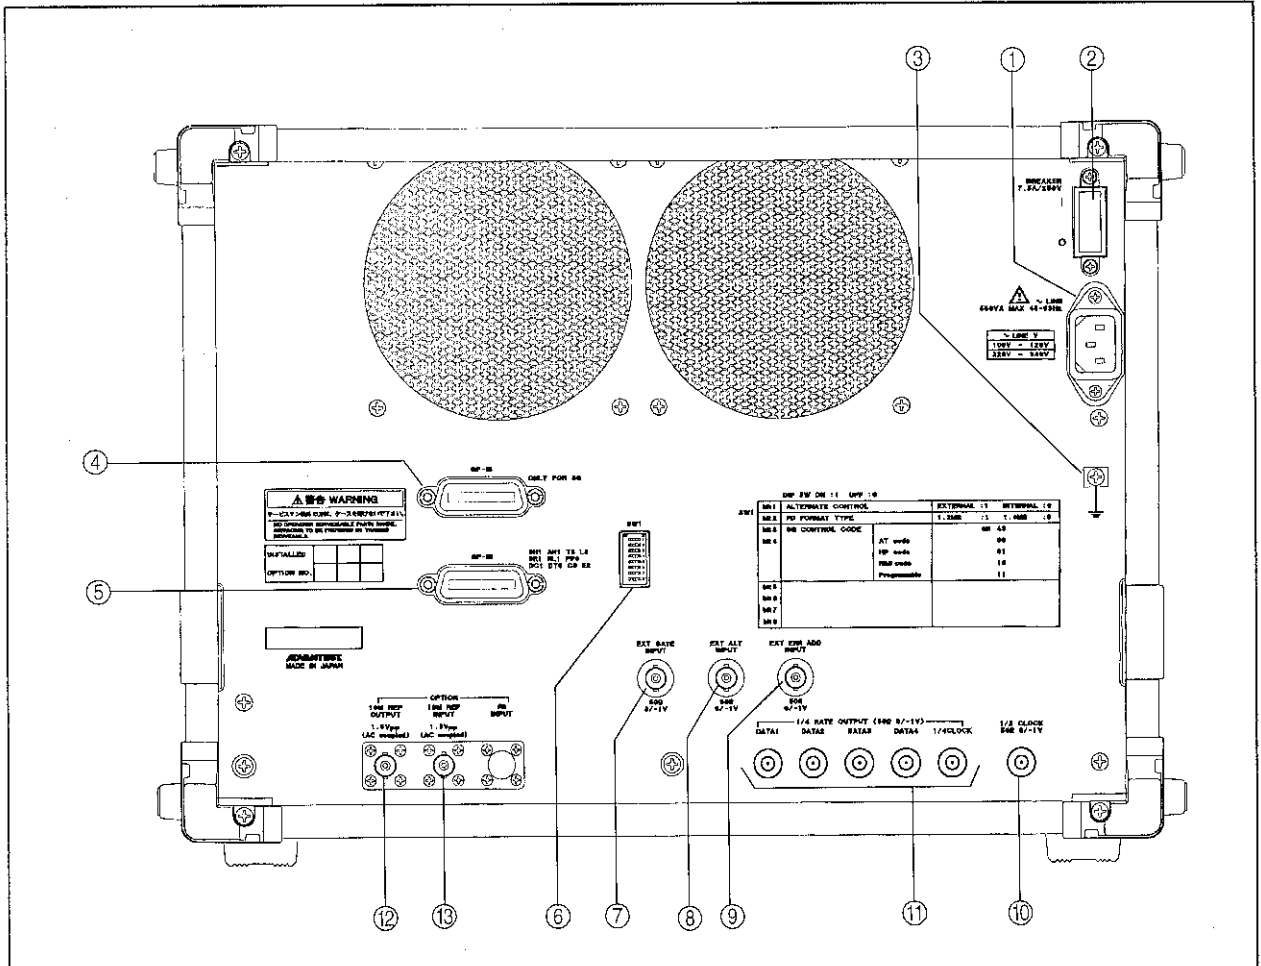

Figure 2-6 Rear Panel
With the POWER switch (① in Figure 2-4) on the front panel turned OFF (by pressing the left side of the switch) and the breaker on the rear panel (② in Figure 2-6) turned ON (by pressing the "." mark side), connect the ~LINE inlet (① in Figure 2-6) on the rear panel to a receptacle using the attached power cable.